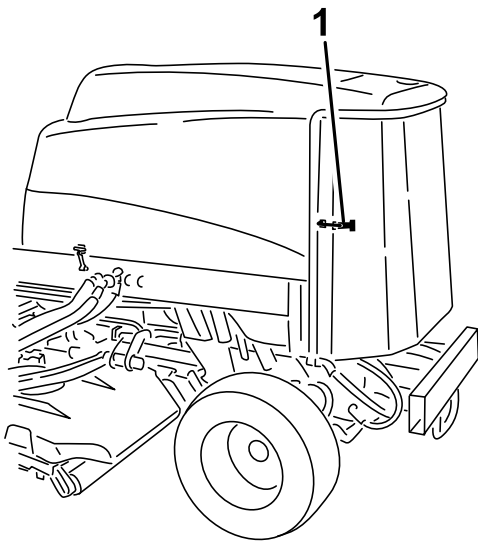

Figure 86
3. Unlatch and swing open the rear screen (Figure 86).